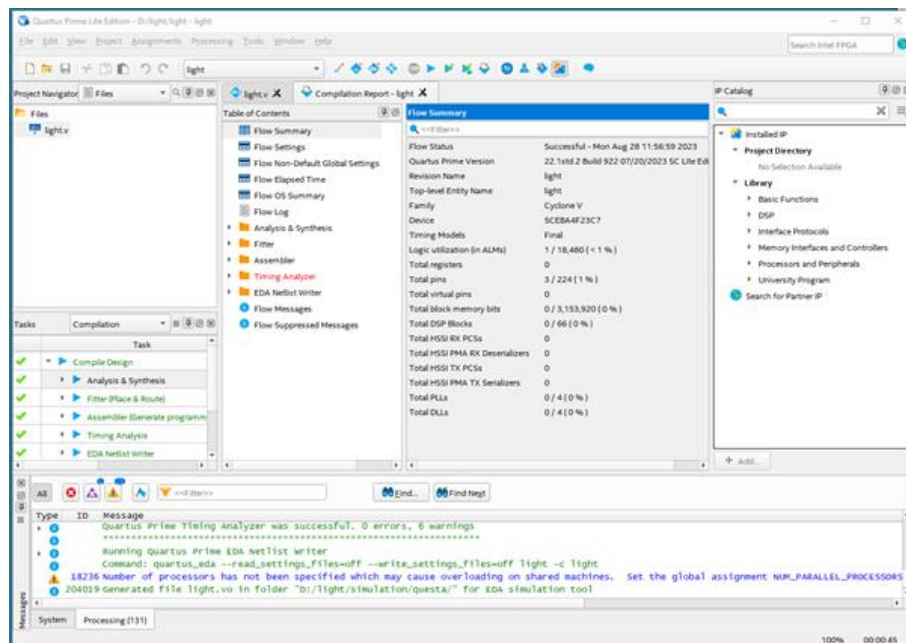

Figure 15. Display after a successful compilation.
3. Successful (or unsuccessful) compilation is indicated in a pop-up box. Acknowledge it by clicking OK, which leads to the Quartus display in Figure 15. In the message window, at the bottom of the figure, various messages are displayed. In case of errors, there will be appropriate messages given. When the compilation is finished, a compilation report is produced. A window showing this report opens automatically, as seen in Figure 15.